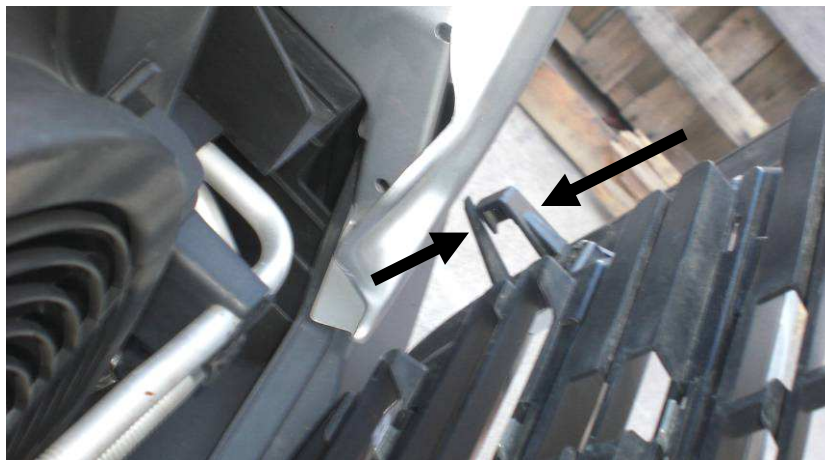

Figure 2: Grill retaining clips
- To release the two large clips on the sides of the grill seen in figure 2, squeeze the top and bottom together (indicated by arrows) and push down—be careful, these break easily